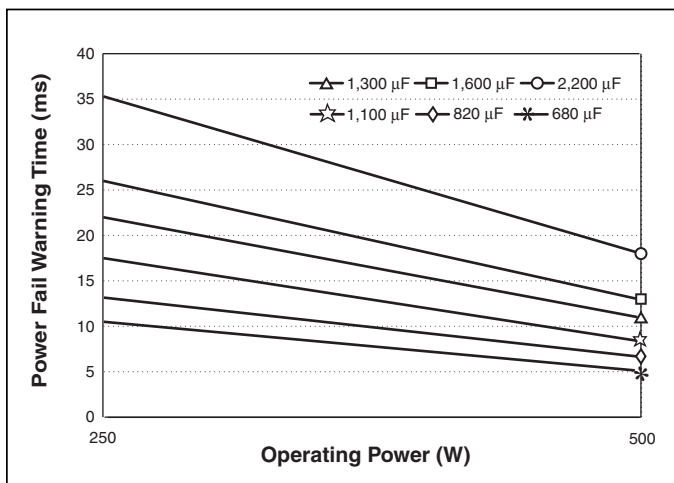

Figure 13 — Power fail warning time vs. operating power and total bus capacitance, series combination of  $C_1$ ,  $C_2$  (see *Figure 1a*)
Calculated values of bus capacitance for various hold-up time, ride-through time, and ripple voltage requirements are given as a function of operating power level in *Figures 13, 14, and 16*, respectively.
**Warning.** *Figure 13* is used to determine capacitance for a given power fail warning time and power level, and shows that the total bus capacitance should be at least 820  $\mu$ F. Since two capacitors are used in series, each capacitor should be at least 1,640  $\mu$ F. Note that warning time is not dependent on line voltage. A hold-up capacitor calculator is available on the Vicor website, at [vicorpower.com/hubcalc](http://vicorpower.com/hubcalc).